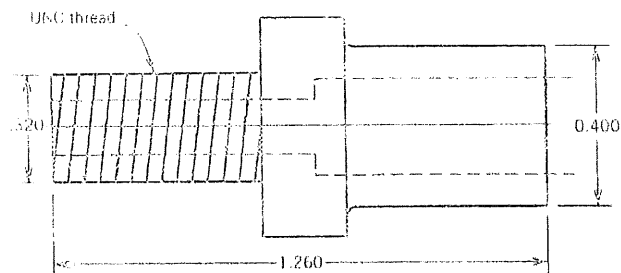

Figure 2: Part Design
- a) Given the rotational part design in Figure 2. By referring to Appendix 1, **determine** the suitable form code in the Opitz classification and coding system. (5 Marks)